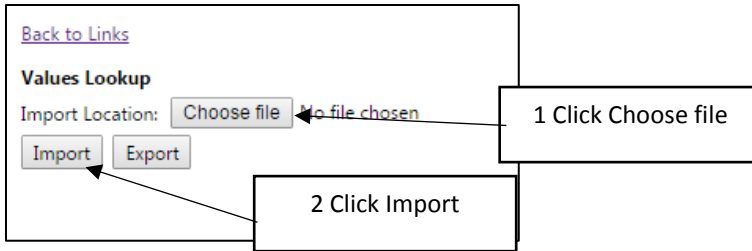

Figure 13.
5) Click Choose File then browse your computer for the spread sheet you have just saved. Next click Import. See figure 13.